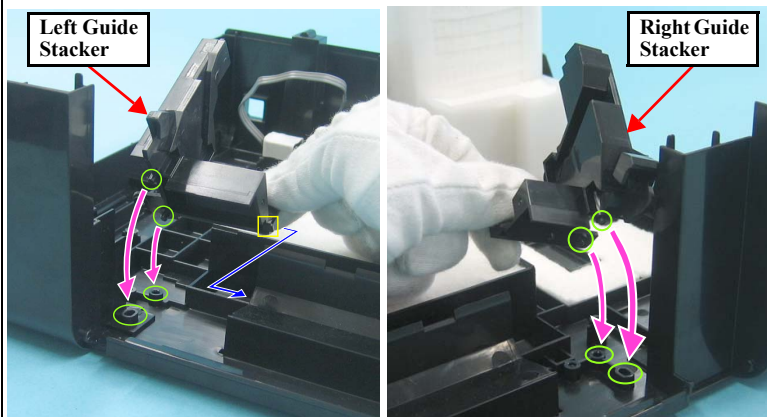

Figure 4-65. Installing the Left / Right Guide Stacker
- When installing the Left Guide Stacker, insert the rib indicated with in Fig.4-65 and match the positioning holes and guide pins indicated with (two pairs).
- When installing the Right Guide Stacker, match the positioning holes and guide pins indicated with (two pairs) in Fig.4-65.